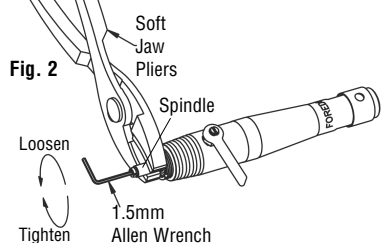

Fig. 2
3. Insert 1.5mm Allen wrench (supplied with new handpiece collet) into the collet lock screw, and grip the exposed spindle using soft jaw pliers. Turn the Allen wrench counterclockwise 1/4 turn to loosen the collet lock screw – Fig. 2.
properly when a SLIGHT resistance is felt when moving the bur in and out with the collet release lever in the fully opened position. Next, grip the spindle with the soft jaw pliers, and tighten the collet lock screw securely with the Allen Wrench – Fig. 2.